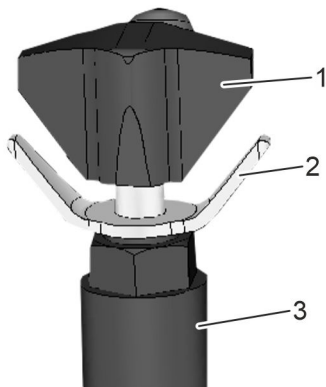

Fig. 17: Pressure adjustment valve
2. ➔ Release the adjustment lock (Fig. 17/2). To do so, turn it anti-clockwise.
3. ➔ Turn the knob (Fig. 17/1) anti-clockwise. Open completely.